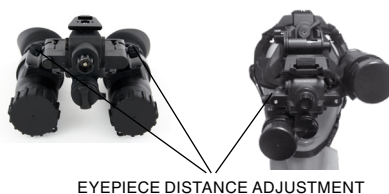

FIGURE 2.22. INTERPUPILLARY ADJUSTMENT
(10) In order to adjust the interpupillary adjustment to be in line with the distance between your eyes. Use the side knobs as illustrated in Figure 2.22. This setting should be on all the time.